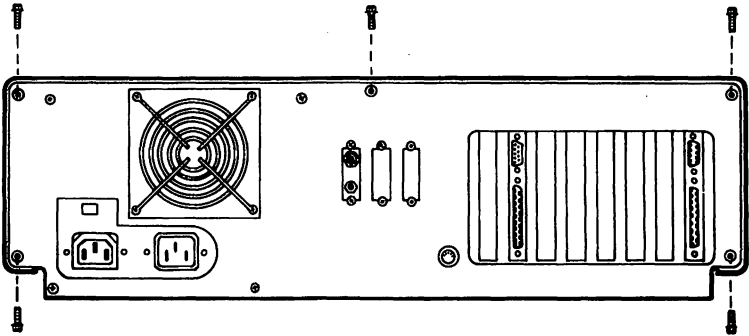

Figure 3-1
3. **Unscrew the five screws at the rear of the system unit. (See Figure 3-1.)**
3. Replace the five cover screws on the back panel. (Refer to Figure 3-1.)